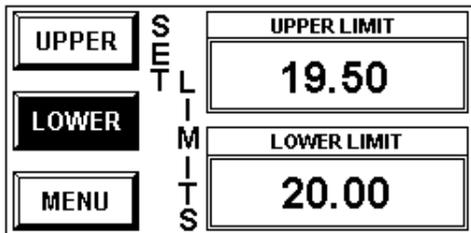

Figure ZD.2-14: Set Limits Screen
- 2) Press “LIMITS” on the *Main Menu Screen* to display the *Set Limits Screen* {Figure ZD.2-14}.